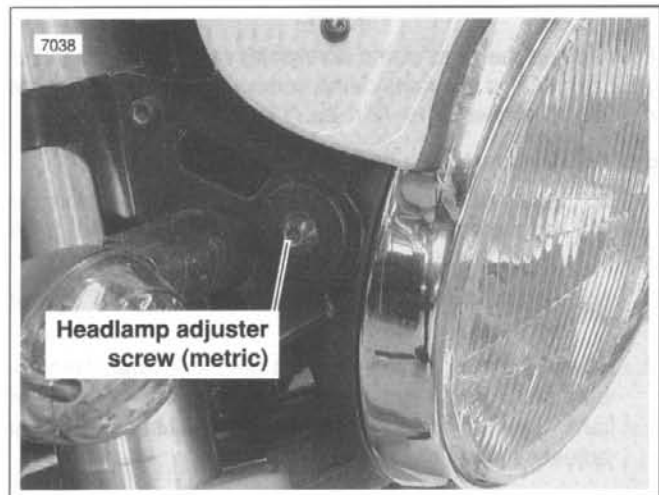

Figure 1-73. Headlamp Height Adjustment
1. See Figure 1-73. Loosen both adjuster screws (metric).